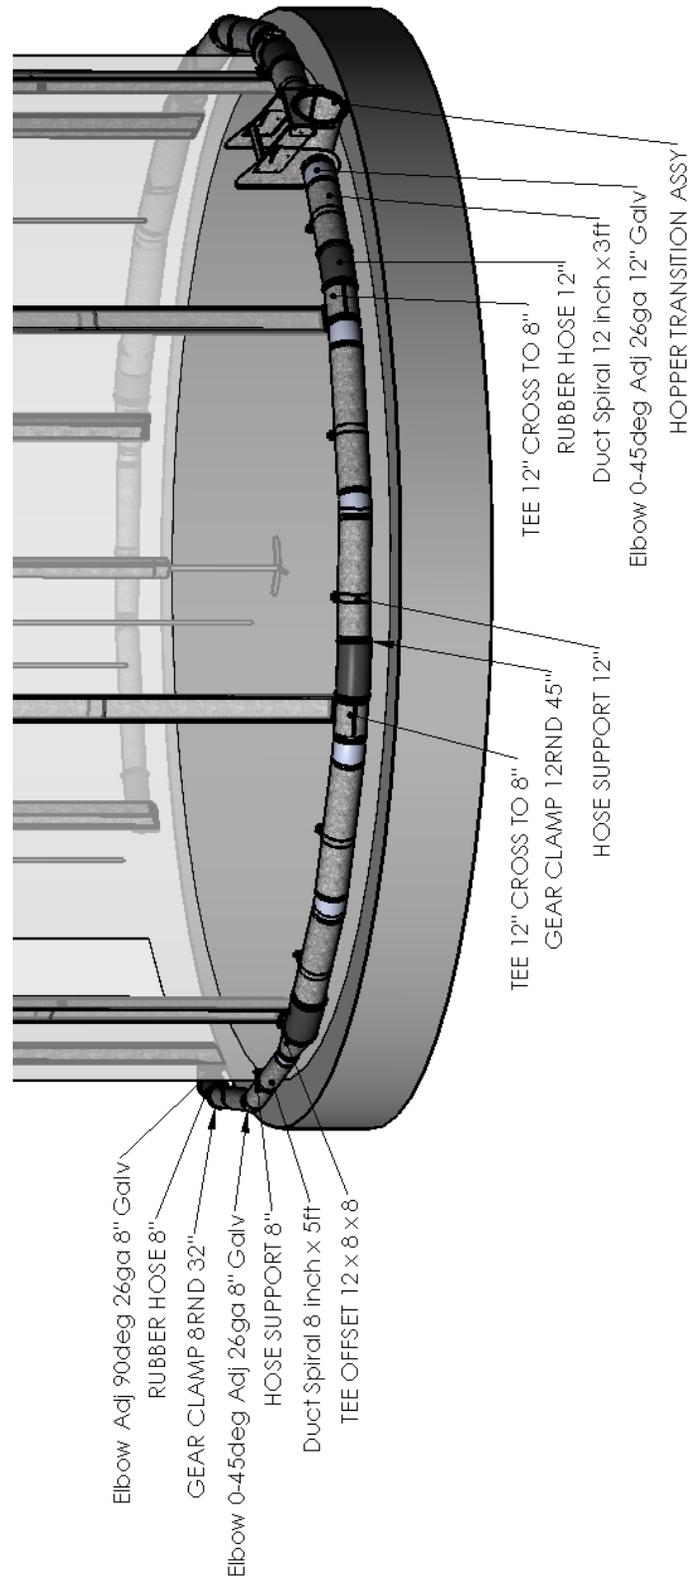

Figure 3.3.5c: Flat Bottom Outside Ducting (8 vertical columns)
**NOTE:** If there are 8 COLUMNS on the bin see Fig 3.3.5c, then install TEE 12x12x8 on first and second inlet, TEE OFFSET 12x8x8 on third inlet and ELBOW 90deg 8" on fourth inlet.